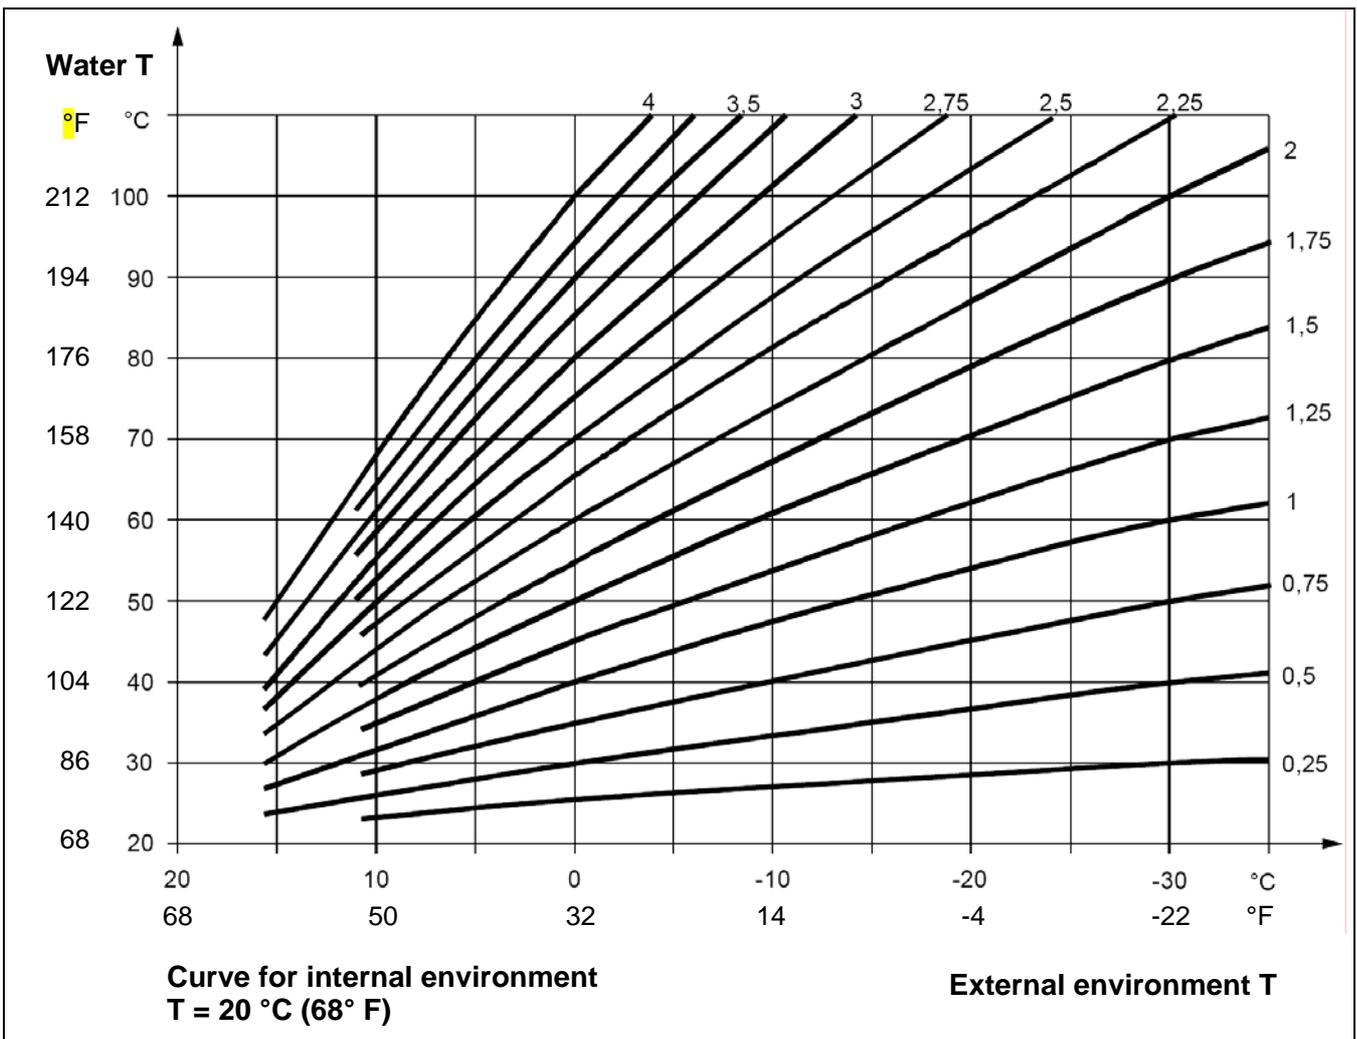
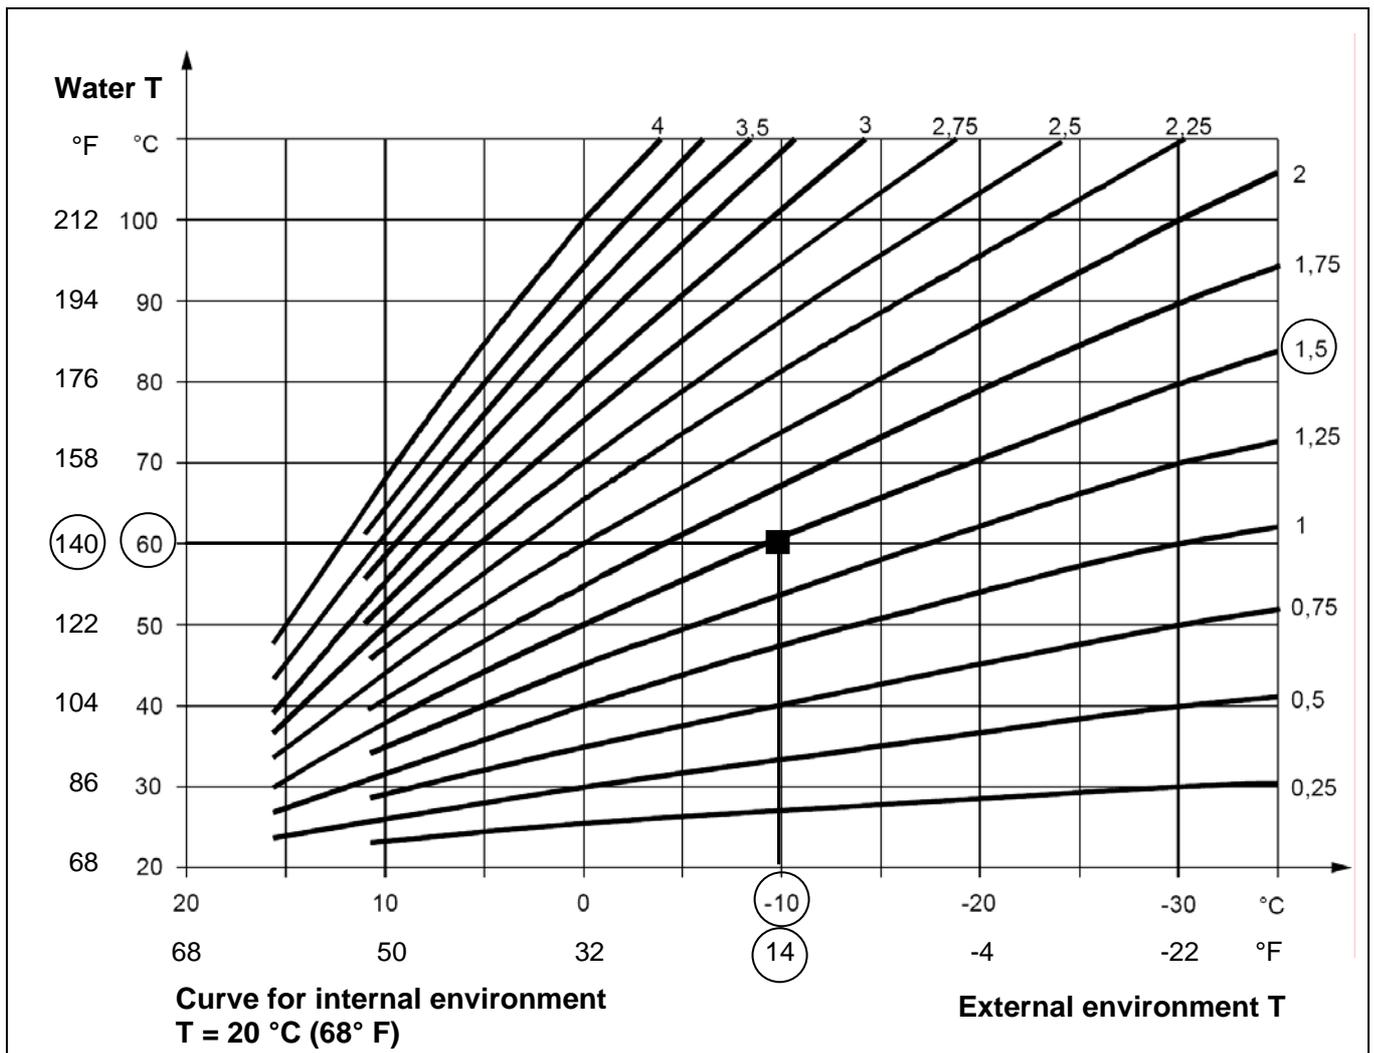

Figure 22 —GRAPHICS OF THE "HEATING CURVES"
Figure 23 – EXAMPLE OF SELECTION OF A HEATING CURVE ON THE BASIS OF THE RATED TEMPERATURE
Regarding heating, the family of climatic curves is indicated in Figure 22 and the choice of the curve to use is made by specifying the value of a parameter that indicates the slope of the curve. The curve defined in this way refers to an internal environment set-point temperature of 20 °C (68 °F) . If the set-point temperature is different, the system automatically adapts the curve used.
- Using the Figure 22 graphics, select the curve that satisfies the requisite of the previous point; for the example in the previous point, see Figure 23.
For the example in the previous points, set the value of 1.5, as indicated in Figure 23.